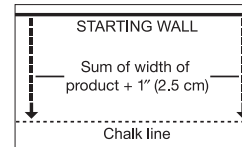

Figure 7
- In at least two places at least 18" (46 cm) from the corner, measure out equal distance from the starting wall (Figure 7) the face width of the starter board plus 1" (2.5 cm) (do not include the width of the tongue in this measurement). Mark these points and snap a chalk line through them. This measurement allows for the required 3/4" (19 mm) expansion and the width of the tongue.